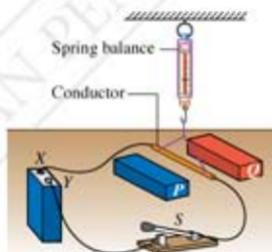

Figure 1
1. Figure 1 shows a conductor hanging from a sensitive spring balance in between a pair of Magnadur magnets.